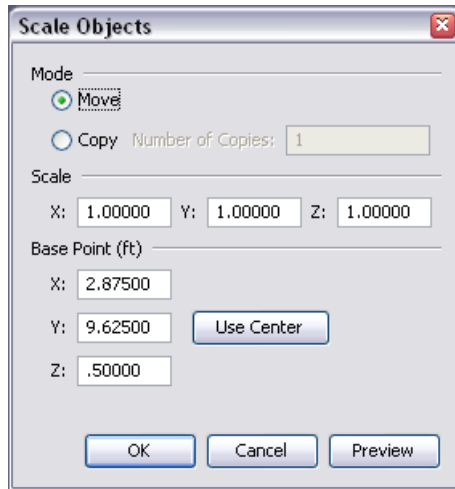

Figure 10.3. The scale dialog being used to scale an object
3. This will show the Scale dialog as in Figure 10.3.